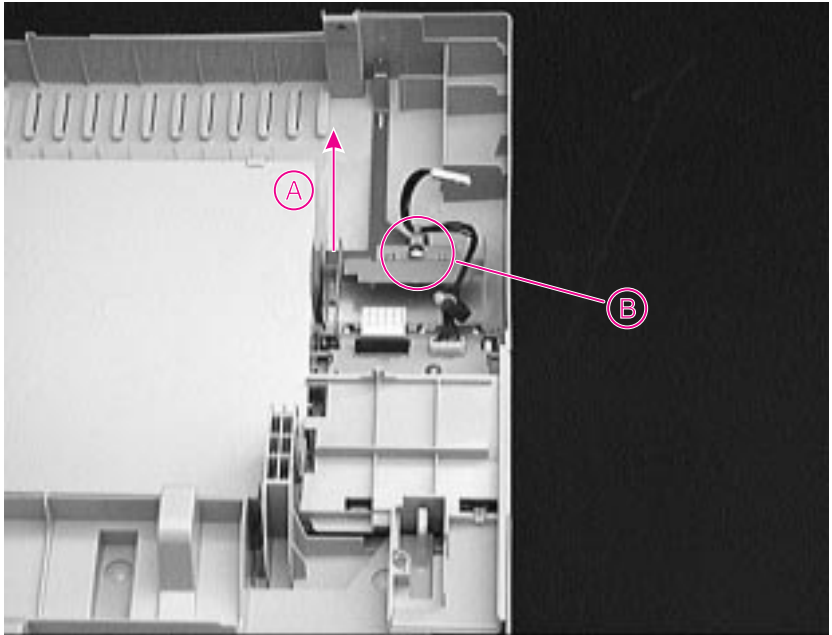

Figure 6-8 Back Side of Top Cover
- 6 Grasp the Control Panel by the metal frame and remove it from the underside of the Top Cover. See Figure 6-8, "Back Side of Top Cover," on page 6-16.